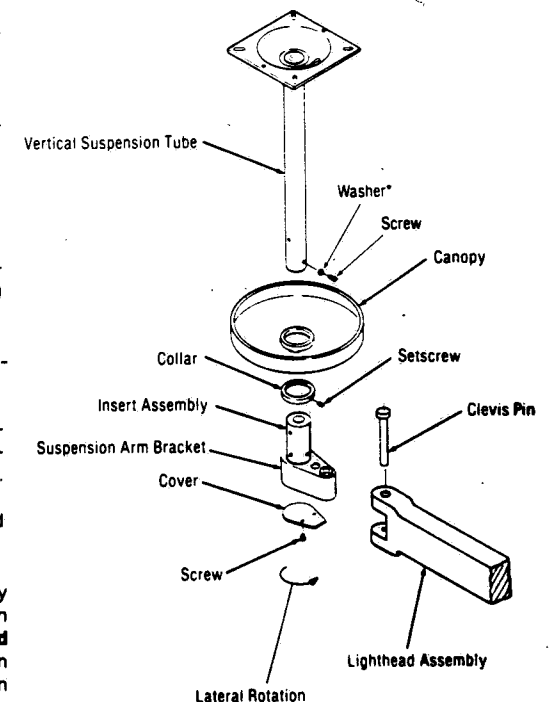

Figure 4-12. CEILING MOUNT ASSEMBLY.
2. Refer to Figure 4-12 and remove cover from suspension arm bracket.